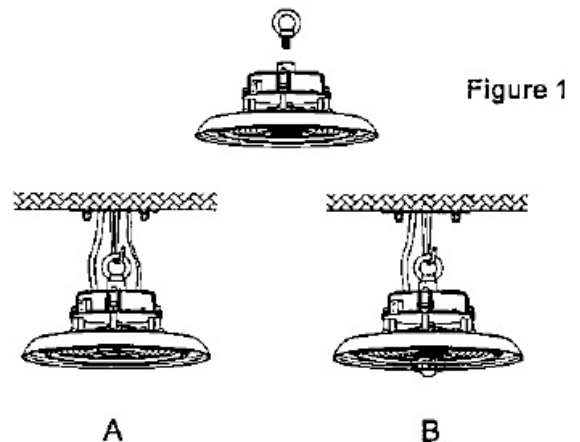

Figure 2
2. Hang the fixture on the ceiling hook or chain. (figure 2)